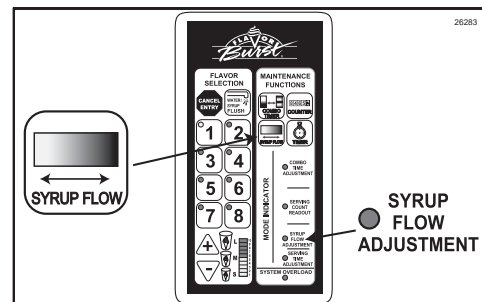

Figure 183
4. Repeat steps 1 and 3 (skip step 2) for each flavor that needs to be adjusted. When finished, press the SYRUP FLOW key to exit the mode and lock in the syrup levels. (See Figure 183.)